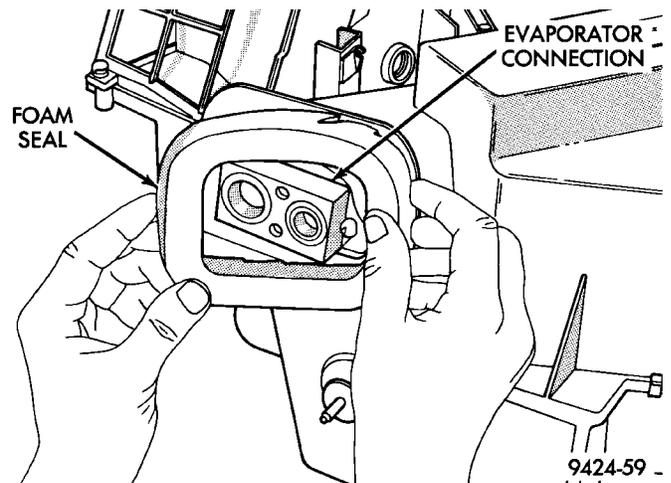
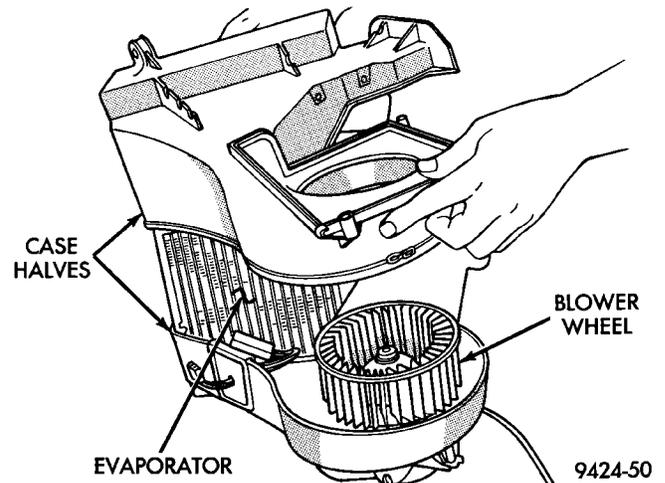

Fig. 30 Foam Seal Removal
Fig. 31 Case Separation
- (1) Remove the clips and screws that hold the Unit Housing to the Evaporator/Blower Module. Then separate the two units.
- (2) Remove the evaporator to dash panel foam seal (Fig. 30).
- (3) Disconnect fin sensing switch from harness.
- (4) Remove upper to lower case retaining clips and screws.
- (5) Separate the case halves (Fig. 31).